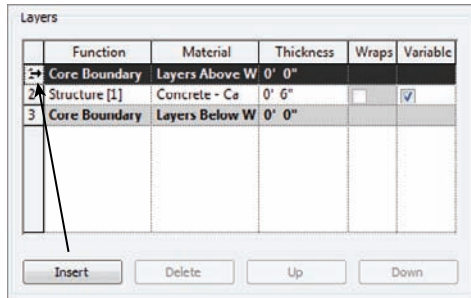

FIGURE 6.21 Inserting a new layer for the terrazzo
1. In the Layers field, you will see three rows. Each of the three rows has a corresponding number. Click the number 1. This is the top row that reads Core Boundary Layers Above (see Figure 6.21).
2. Underneath the Layers field, you will see an Insert button, as shown in Figure 6.21. Click it.